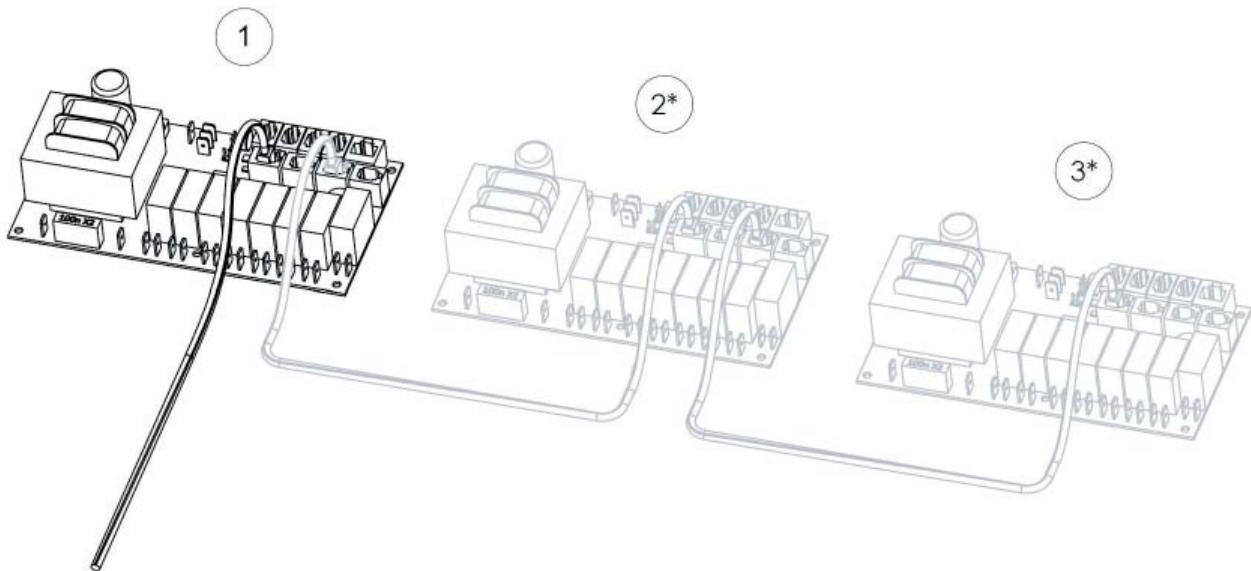
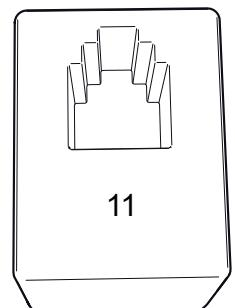

Fig. 16
Fig. 17
To connect the temperature sensor, etc., to the control panel with quick connectors, refer to the circuit board overview (Fig. 17). All the connectors must be in place before the power is switched on.
The connections between the generators use a low power cable (4 core) with an RJ10 connector, (Fig. 16.) Refer to the section "Modular connector description" (Fig.17) for more information on the pin configuration.
If one steam generator needs servicing the others can remain in operation. One generator that is set as a secondary is disconnected by removing the cable from between the circuit boards. (Fig. 16)
2. Disconnect the cable that connects the control circuit boards (Fig. 16)